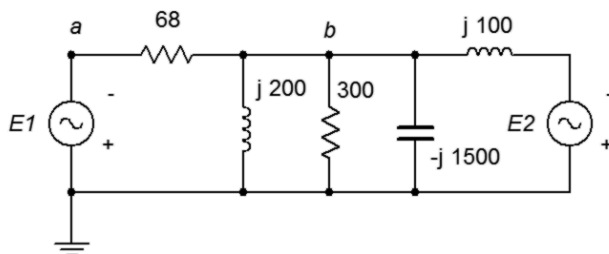

Figure 5.3
5. In the circuit of Figure 5.3, use Superposition to find v_b . Source one is one volt peak and source two is two volts peak.
6. In the circuit of Figure 5.3, use Superposition to find the currents through the two inductors. Source one is two volts peak and source two is three volts peak.